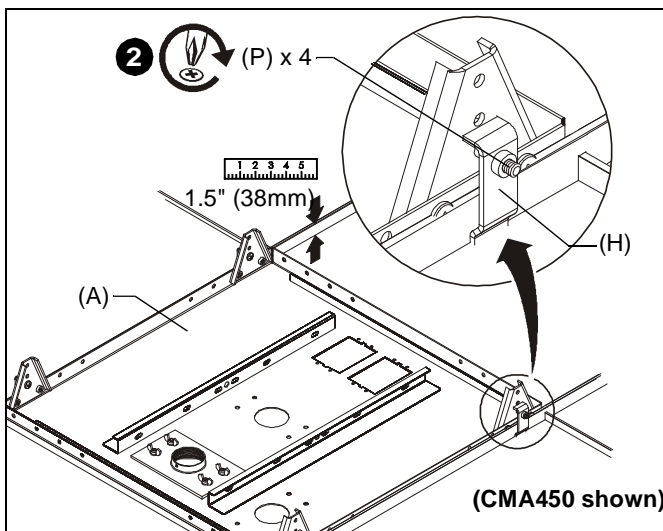

Figure 11
1. Reinstall ceiling tile (if applicable) and assembly (A). Ensure proper orientation for location of hole.
2. Slip ceiling framework clamps (H) over primary (1-1/2" (38mm) high) rails of ceiling framework (See Figure 11). Tighten 1/4-20 x 1" Phillips head screws (P) previously installed.